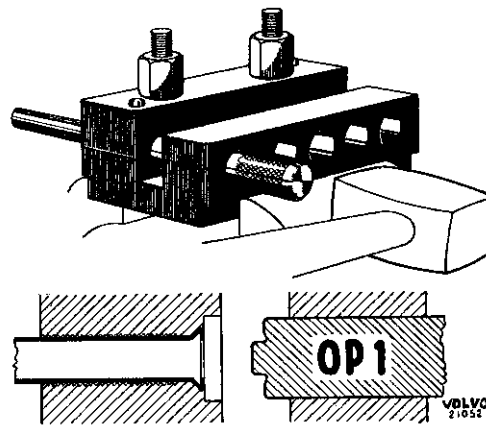

Fig. 56. Flanging a brake pipe.
3. Place the drift OP 1 in the tool. Strike the drift with a copper mallet until it goes right in. The edge of the pipe is thus bent out as shown in Fig. 56.